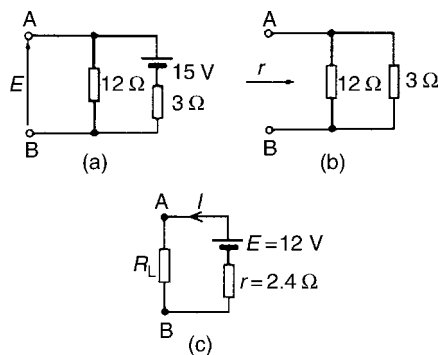

Figure 13.86
- Resistance R_L is removed from the circuit as shown in Fig. 13.86(a)
- Removing the source of e.m.f. gives the circuit of Fig. 13.86(b), from which, resistance,
- (iv) The equivalent Thévenin's circuit supplying terminals AB is shown in Fig. 13.86(c), from which,